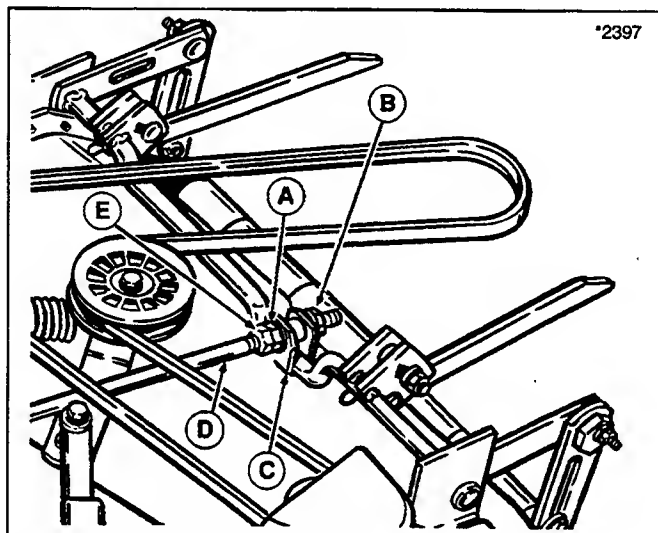

Figure 33. Front-To-Back Levelling
3. See figure 33. Loosen jam nut (E). To lower rear of mower deck, loosen nut (B) which will lengthen leveling rod (D). To raise rear of deck, shorten leveling rod (D). When proper measurement is obtained, tighten nut (A) against bracket, then tighten jam nut (E) against nut (A).